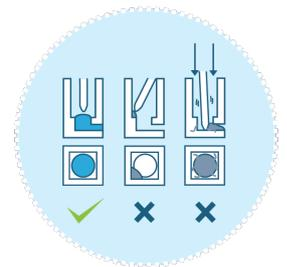

Figure 4: Gel loading
- a. Gently place your pipette tip on top of the hole in the bottom of the well and dispense the gel. Contact between the pipette tip and the hole is essential for gel loading. Correct positioning of the gel on top of hole allows capillary forces to pull the gel into the microfluidic gel channel (see figure 4).